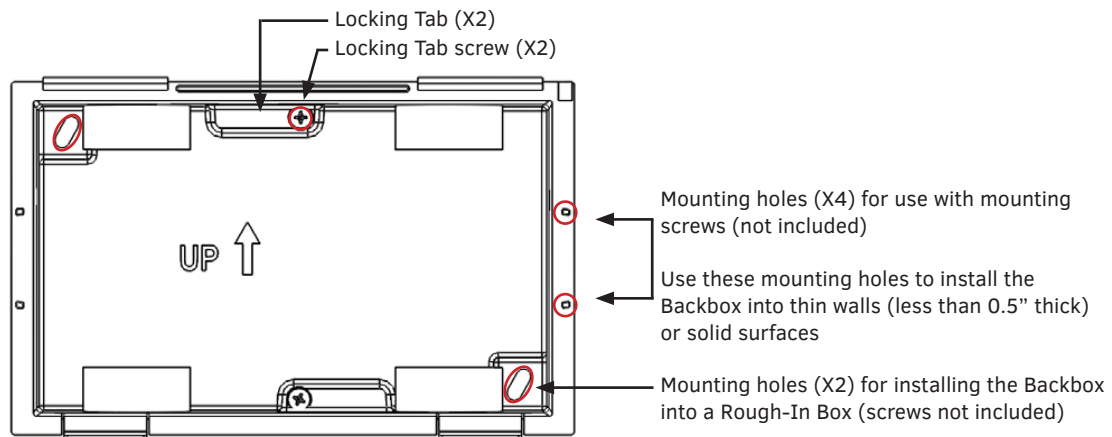

FIG. 21 7" MODERO Backbox (Front View)
- FIG. 21 shows the Backbox for the MD-702: